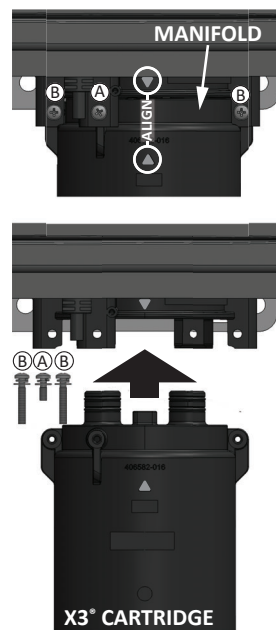

Figure 34 - X3® Cartridge Installation
**2** Locate the three (3) screws located in the hardware bag that is located on the top of the heater carton. Set the one M4-12mm screw and two M4-25mm screws aside in a safe place.
**NOTICE:** The X3® cartridge is keyed to only install in one direction. Align the ▲ on the cartridge with the ▼ on the manifold. When inserting the cartridge, push up until the screw holes align. Some resistance is normal. See Figure 34.
**4** Remove the two long and one short screws securing the X3® Cartridge to the manifold located on the underside of the water heater cabinet. Set the screws aside in a safe place for re-installation. Place a bucket under the water heater cabinet to collect any residual water. Note the order of the screws when removing them. Reference Figure 34.